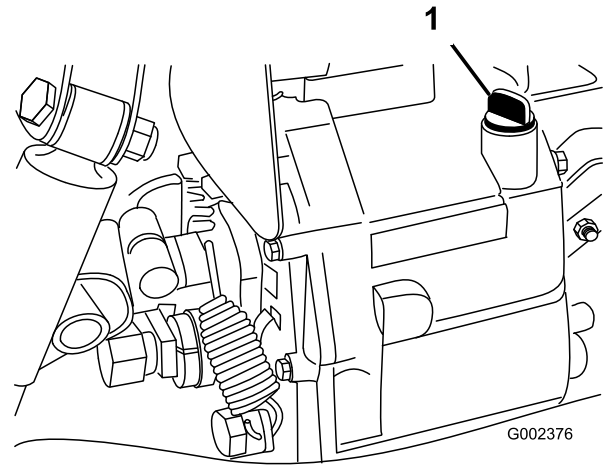

Figure 62
4. Clean the area around the dipstick (Figure 62).